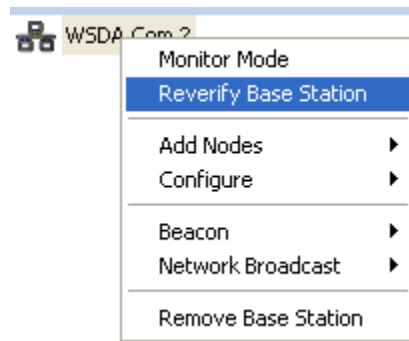

Figure 1. Reverify Base Station
3. If it is grayed-out, right-click the Base Station and click Reverify Base Station. See Figure 1.